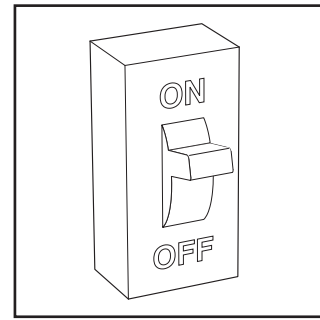

Fig. 14 - Turn On Electrical Supply
8. Turn ON the electrical supply to the furnace and wait 1 minute. (See Fig. 14.)